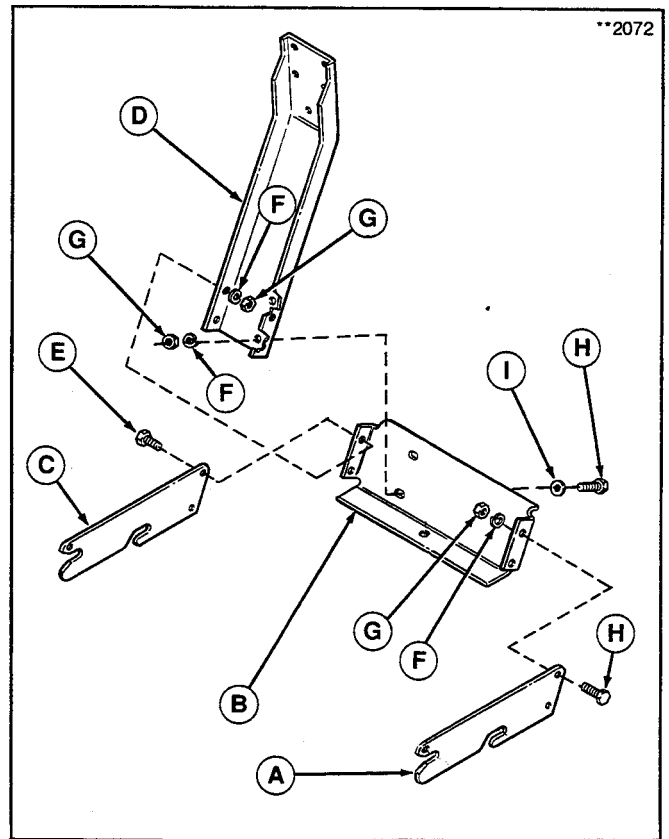

Figure 9.
12. Assemble support bracket with side plates (A, figure 9) on the outside of back plate (B) as shown in figure 9. Do not tighten hardware securely.
13. Assemble upright (D) on the inside of back plate (B). Do not tighten hardware securely.